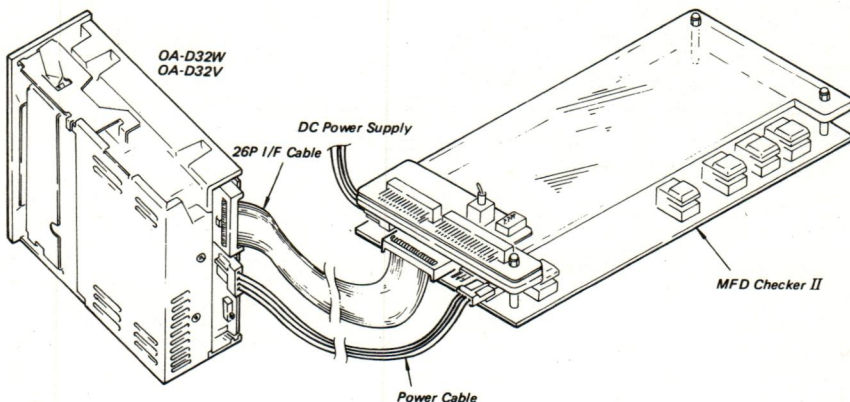

Fig. 2-1 Drawing of Connection Between Disk Drive and MFD Checker II
#### (2) Micro Floppydisk Drive Connection (Refer to Fig. 2-1)
- 1) Referring to Fig. 2-1 (Micro Floppydisk Drive Connection), connect the drive to MFD Checker II.